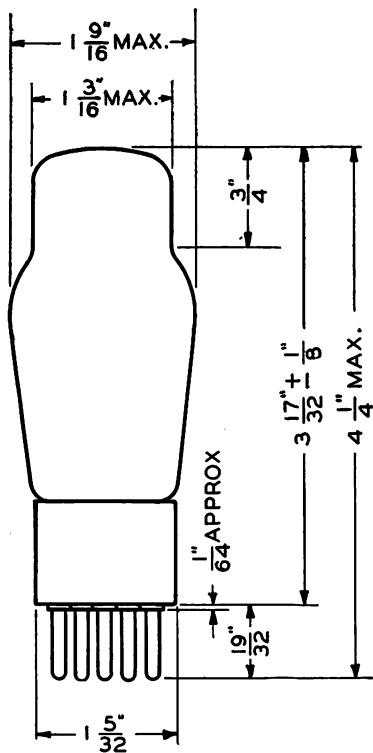
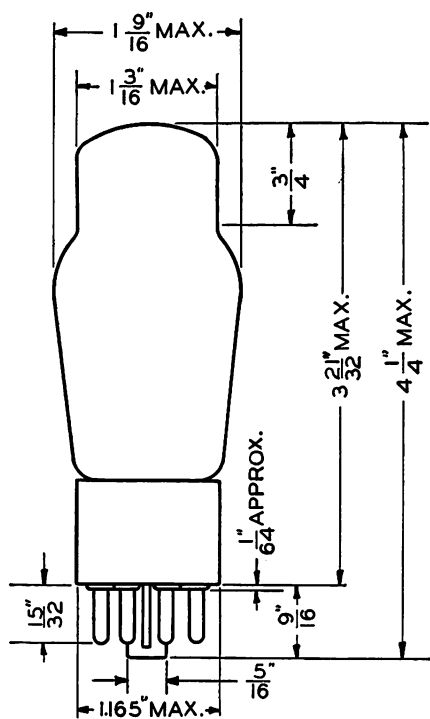

FIG. 1
FIG. 3
**Dimensions and Connections—**The outline diagrams of the tube and base giving dimensions and the arrangement of electrode connections to the base terminals for the 345A tube are shown in Figures 1 and 2. Similar information for the 351A is shown in Figures 3 and 4.